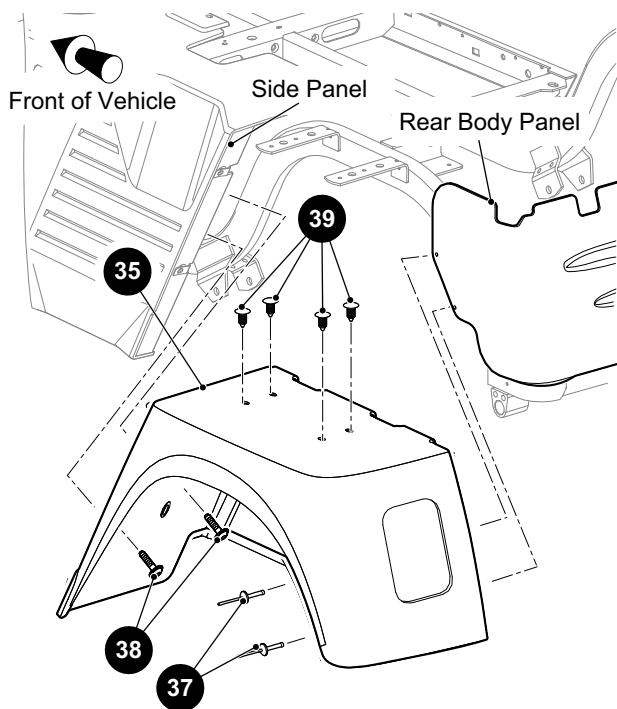

Figure 12 Rear Fender Replacement.
Drill out two rivets (37) securing the rear fender (35 or 36) to the rear body panel (Figure 12).